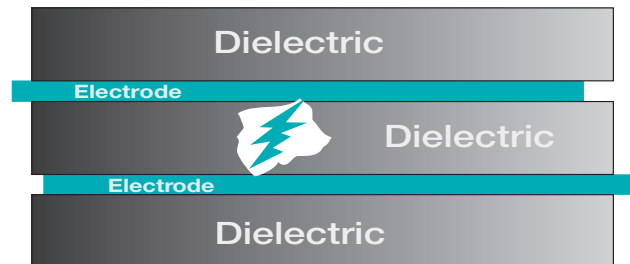

Figure 14. Two electrodes short circuit through a fault in a dielectric layer.
1. **Self-healing design** (see Fig. 14 & 15)